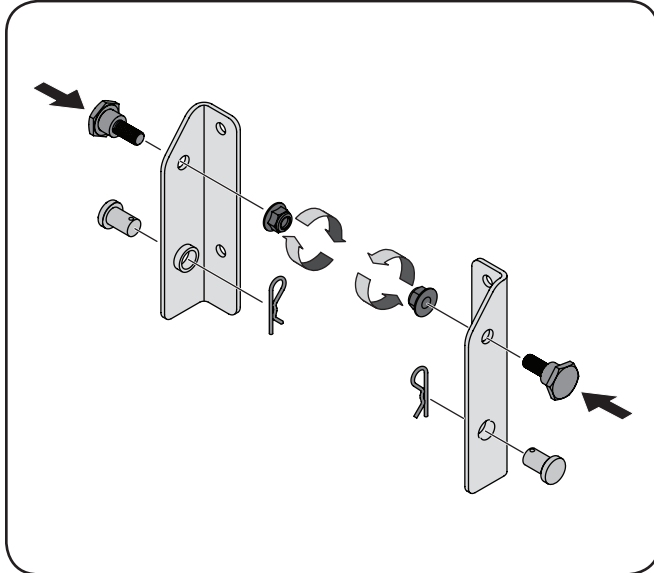

Figure 3-1
1. Install a shoulder bolt on each bracket, if not already done so by the factory, securing them with flange lock nuts which both are included within the kit's hardware. Refer to Figure 3-1.
2. Insert clevis pins on each bracket, securing them with clip pins also included with the kit's hardware. Refer to Figure 3-1.